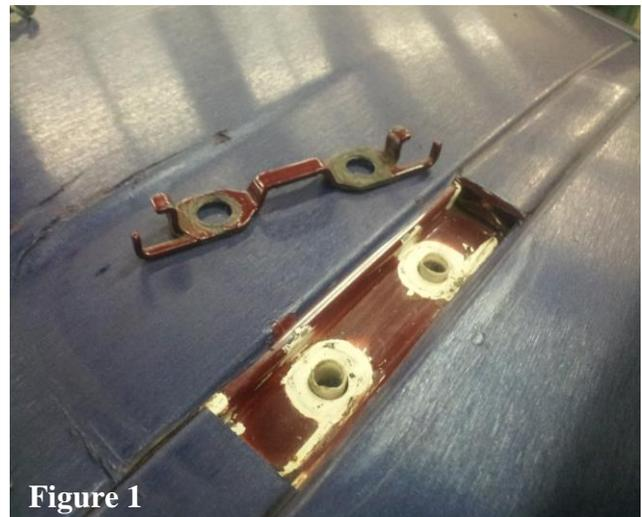

Figure 1
2. Remove the 2 bolts and the bracket from each mounting point, leaving only the channel with 2 plastic sleeves remaining (Figure 1). Loosen BOTH bolts before you remove either bolt. Do not remove a bolt without first loosening the bolt next to it. Failing to follow this procedure may cause damage to the brackets inside the roof.